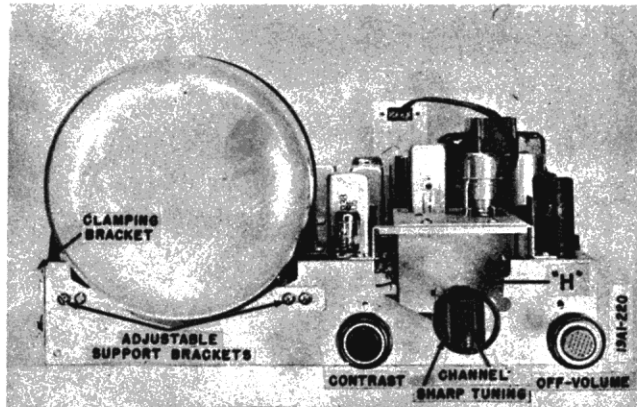

Figure 20. Chassis, Front View.
- d. To remove the picture tube, slip socket and tube shield back from the base of the tube. Loosen the two screws which mount the webbing band clamping bracket at the side of the chassis. See figure 20.